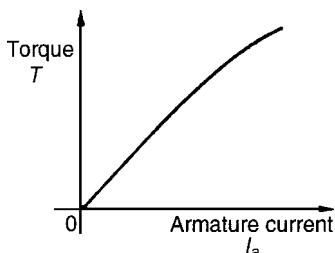

Figure 22.17
- (i) The theoretical torque/armature current characteristic can be derived from the expression  $T \propto \Phi I_a$ , (see Section 22.11). For a shunt-wound motor, the field winding is connected in parallel with the armature circuit and thus the applied voltage gives a constant field current, i.e. a shunt-wound motor is a constant flux machine. Since  $\Phi$  is constant, it follows that  $T \propto I_a$ , and the characteristic is as shown in Fig. 22.17